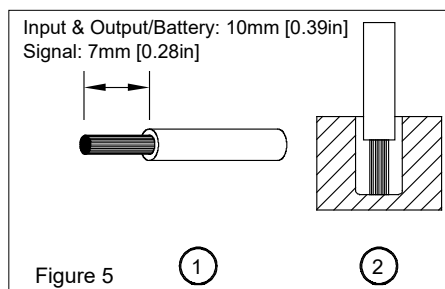

Figure 5
Wires between the battery control module and battery must not be longer than 2m [6.5 ft]. For reliable and shockproof connections, the wire stripping length should be 10mm for Input & Output/Battery terminal block connector and 7mm for Signal terminal block connector (see Fig. 5 (1)). Please ensure that wires are fully inserted into the connecting terminals as shown in Fig. 5 (2).